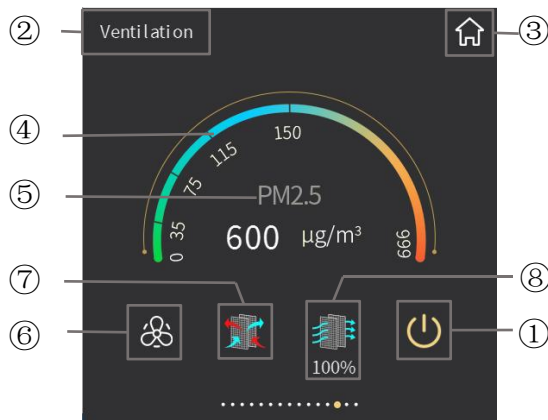
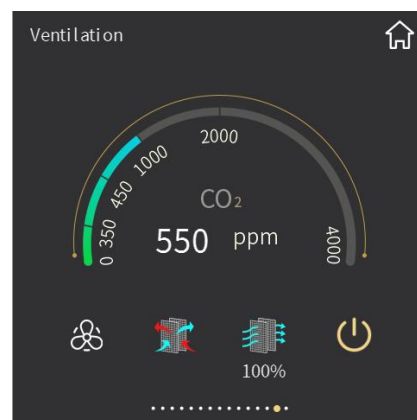

Fig.2.6.1
Fig.2.6.2
Only when auto fan speed control of ventilation system is enable would this interface display, as shown in Fig.2.6.1 and Fig.2.6.2.
PM2.5 concentration as shown in Fig.2.6.1, according to the value received from the bus, range 0~999ug/m3; if the data exceed 999ug/m3, then the interface will display 999ug/m3.
CO2 concentration as shown in Fig.2.6.2, according to the value received from the bus, range 0~4000ppm; if the data exceed 4000ppm, then the interface will display 4000ppm.
⑦ **This is the heat recovery icon, used to turn on or off heat recovery function;**
Whether heat recovery function of ventilation system is enable or not is configured through parameter configuration. When disable, there will be no display of heat recovery function on the interface as shown in Fig. 2.6.1; when enable, heat recovery function is turned on by default when ventilation system is ON, and the heat recovery function can be turned on or off by touching icon⑦. The icon on indicates that the heat recovery is on; the icon off indicates that the heat recovery is off. In addition, heat recovery function can be turned on or off through the bus. After disable heat recovery, any touching of icon⑦ will respond.
⑧ **This icon is the filter timer icon;**
Whether the filter timer counter function is enable or not is configured through parameter configuration. When disable, there will be no display of filter timer counter function on the interface as shown in Fig.2.6.1; when enable, icon⑧ will be colorful after ventilation system ON, the remaining evaluation value will be displayed next to it. The value will be updated according to the use time, which